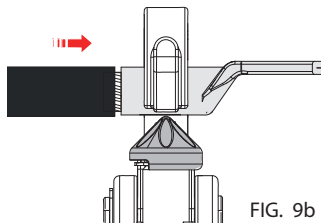

FIG. 9b
- ▶ Fully insert the conductor into the connector (Fig. 9b).